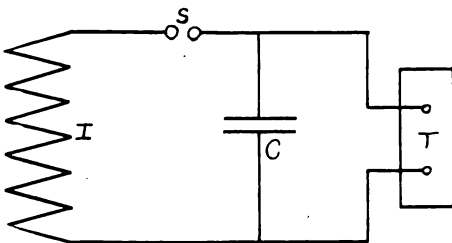
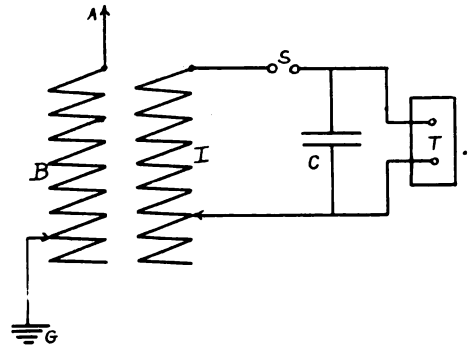
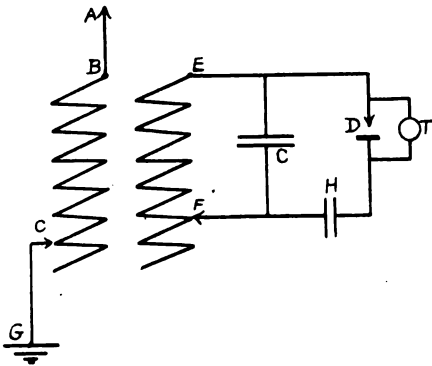

Fig. 40—Simple Oscillation Circuit
Fig. 45.—Complete Tuned Receiver
Fig. 46.—Tuned Receiving Set
A simple circuit for the production of the oscillations is shown in Fig. 40, where (C) is a condenser, (S) is a spark gap, and (I) is a coil of wire. All coils of wire in which adjacent turns are insulated from each other possess a quality known as inductance when alternating or varying currents are
In Fig. 40 the condenser (C) is connected to a transformer or spark coil (T), whose purpose is to charge it to a high potential. When (T) is set in operation, a discharge passes across the gap, which seems to the eye to be a continuous spark, but this is not the case.
The distance traversed by an electromagnetic wave in the time in seconds represented by line TR is the length of the wave, or the wave length. If a condenser having a greater capacity were substituted for (C) in Fig. 40, or if an inductance coil having more turns,
Referring to Fig. 40, we may now complete the transmitting set, which is of the tuned variety, by arranging to transfer the energy of the oscillations from the inductance coil (I) to the aerial. This is done by placing another or secondary winding around (I), but separated from it. The method of connecting this coil to aerial and ground is illustrated in Fig. 45, which shows a complete transmitting set. The circuit CSI is known as the closed oscillation
In Fig. 46 we illustrate the method of connection of a complete receiving set, and would call attention to the similarity between this and the tuned transmitting set shown in Fig. 45. In each case we have an inductance coil with two windings. In the transmitting set this is called an oscillation transformer, and in the receiving set a receiving transformer. The open oscillation circuit of the receiving transformer is ABCG, and
NOTE.—Referring to the diagram Fig. 46 — members of Boy Scout Wireless Divisions will secure much better results if the telephones (T) are connected around the fixed condenser (H), rather than around the detector.—*Technical Editor.*